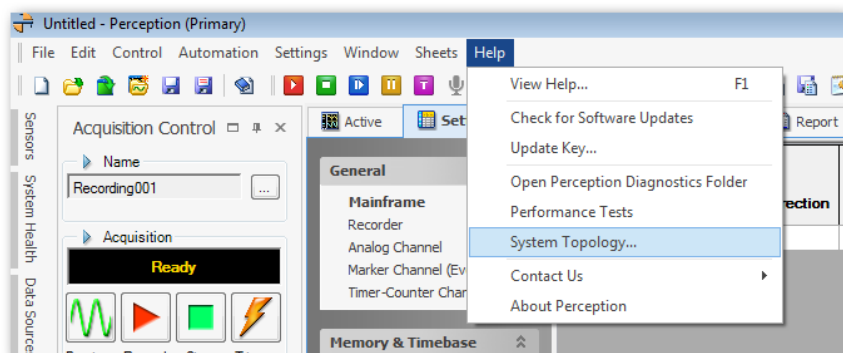

Figure 14.20: System Topology Help
- 1 In the menu bar choose **Help ▶ System Topology** (see Figure 14.20).